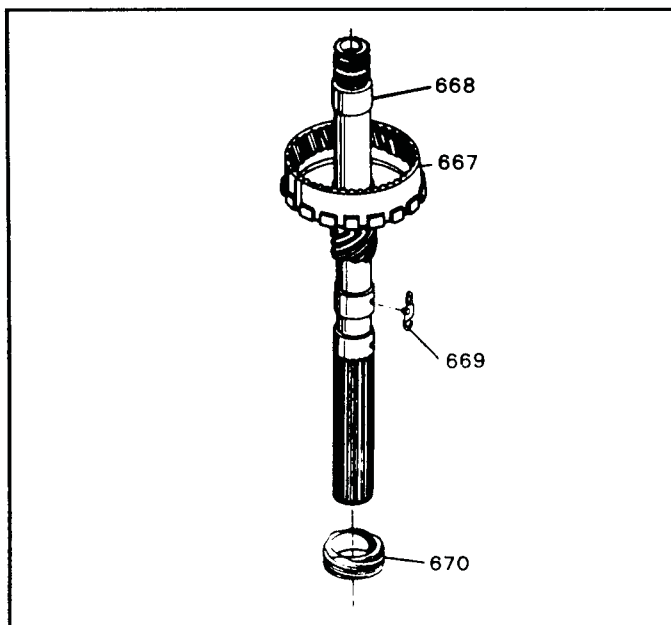

Figure 66
15. Install speedometer gear clip in output shaft, as shown in Figure 66.
16. Install speedometer gear on output shaft, and over the clip as shown in Figure 66.